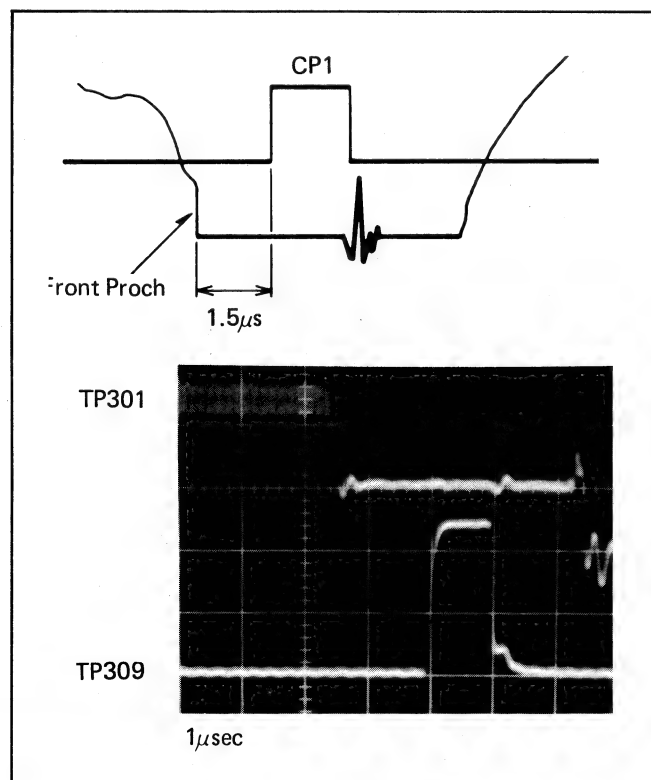

Fig. 25 Waveform for H. Cent.
5. Adjust the horizontal centering control, VR620, so that the time between the trailing edge of the video signal, in other words, the front porch of the optical black, and the leading edge of the clamp pulse 1 signal (TP309) is 1.5 sec. as shown in Fig. 25.